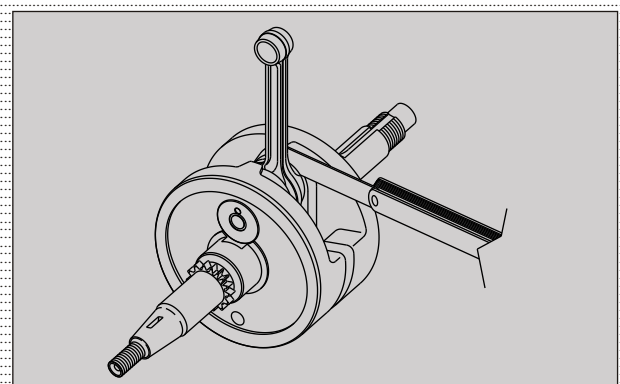

Fig. 3.157
- Measure connecting rod big end side clearance with a feeler gauge. If clearance exceeds the service limit, replace the crankshaft assembly with a new one. (Fig. 3.157)